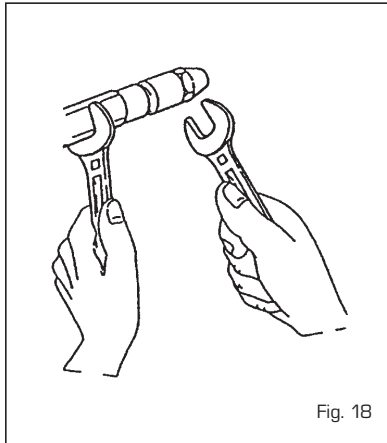

Fig. 18
- Block the spray door using a n°19 spanner and unscrew the nozzle with a n°16 spanner [fig. 18].